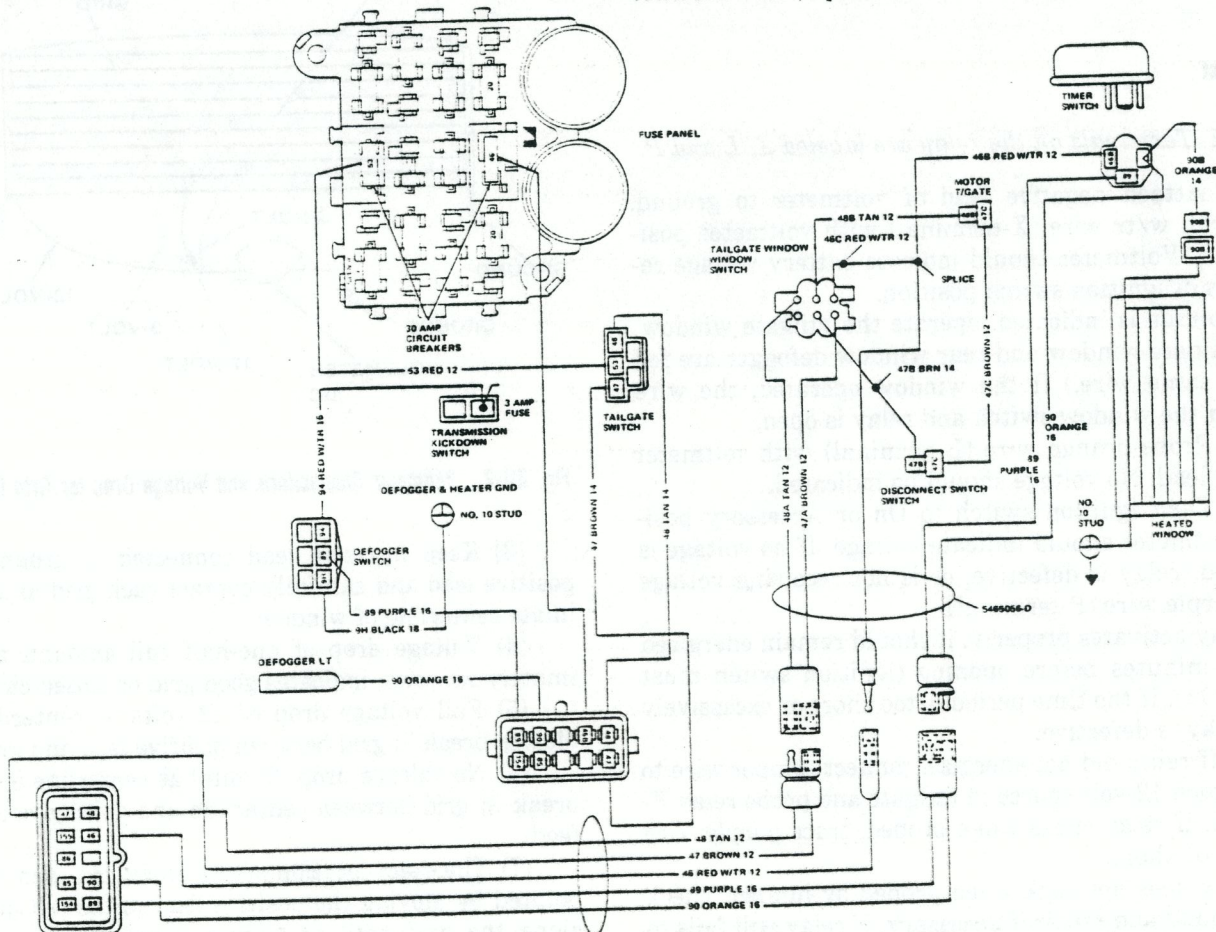

Fig. 3U-1 Heated Rear Window Wiring Diagram
Braided wire, soldered to each bus bar at 2-1/2-inch intervals, serves as the electrical feed and ground for the grid. The grid feed wire is attached to the timer-relay, mounted inside the tailgate. The feed to the relay is supplied by a wire attached to the fuse panel power tailgate terminal (fig. 3U-1).
- (1) Turn ignition switch On and press defogger switch.
- (2) Disconnect optional equipment wiring harness at connector under dash. Connect a 12-volt test lamp from purple wire (89) to a good ground (fig. 3U-1). Test lamp should light.
- (3) Shut off defogger switch and test lamp should not light.
- (4) To test indicator light, disconnect orange wire from lamp. Connect jumper wire from accessory terminal of new fuse panel to orange wire. With ignition switch turned to Accessory position, the lamp should light.